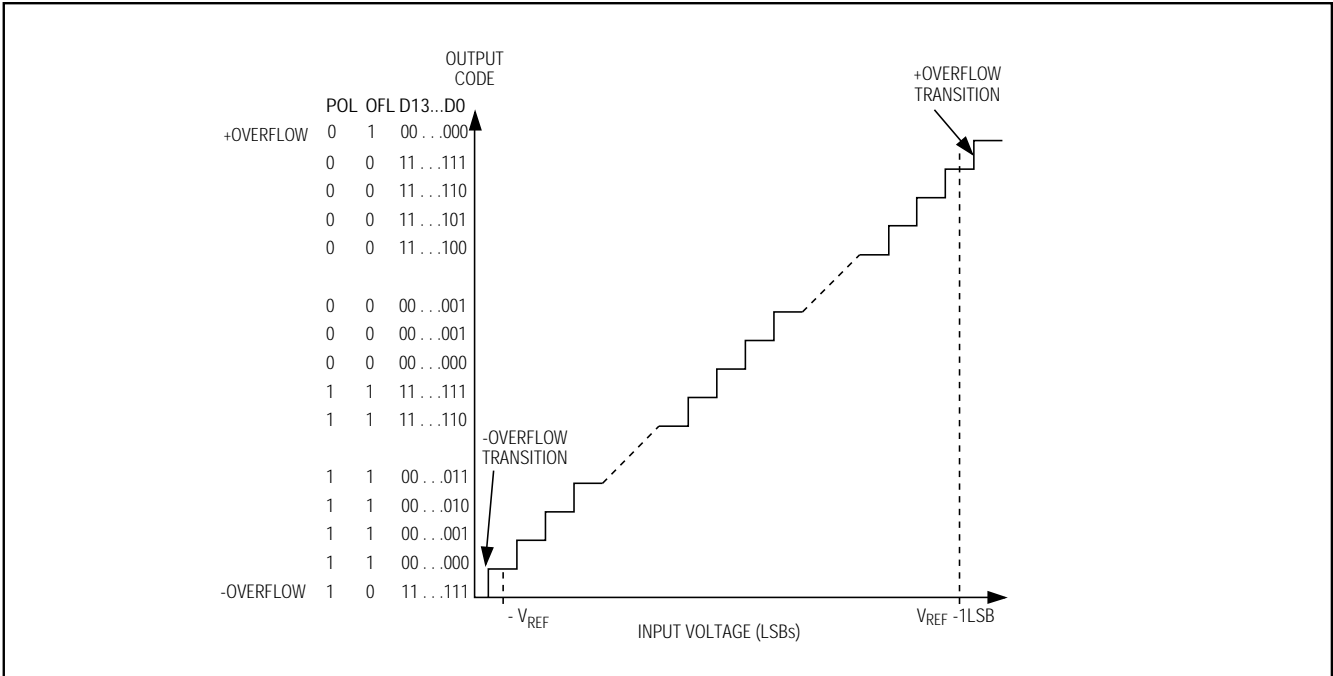
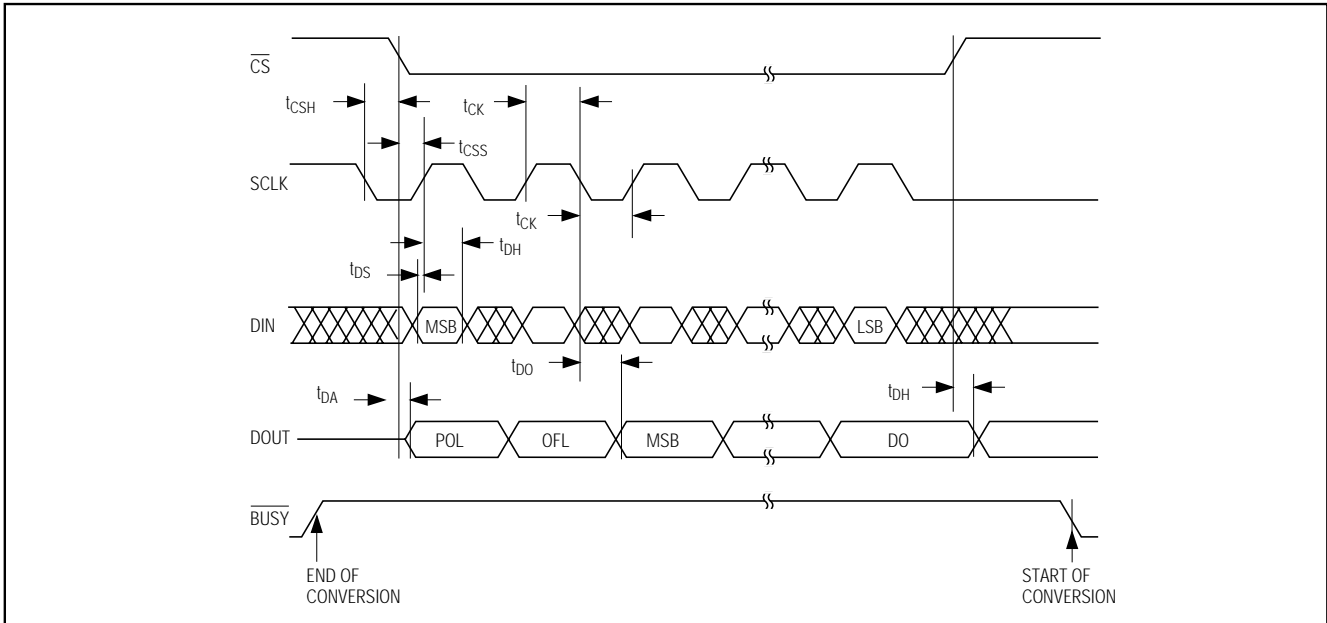

Figure 4. Differential Transfer Function
Figure 6. Detailed Serial-Interface Timing
The output data from the MAX110/MAX111 is arranged in twos-complement format (Figures 4, 5). The sign bit (POL) is shifted out first, followed by the overrange bit (OR), and the 14 data bits (MSB first) (see Figure 6). The MAX110 operates from  $\pm 5\text{V}$  power supplies and converts low-frequency analog signals in the  $\pm 3\text{V}$  range when using the maximum reference voltage of  $V_{REF} = 3\text{V}$  ( $V_{REF} = V_{REF+} - V_{REF-}$ ). Within the  $\pm 3\text{V}$  input range, greater accuracy is obtained within  $\pm 2.5\text{V}$  (see *Electrical Characteristics* for details). Note that a negative input voltage is defined as  $V_{IN-} > V_{IN+}$ . For the MAX110, the absolute voltage at any analog input pin must remain within the  $(V_{SS} + 2.25\text{V})$  to  $(V_{DD} - 2.25\text{V})$  range.
Data is transferred into and out of the serial I/O shift register by pulling  $\overline{\text{CS}}$  low and applying a serial clock at SCLK. This fully static shift register allows SCLK to range from DC to 2MHz. Output data from the ADC is clocked out on SCLK’s falling edge and should be read on SCLK’s rising edge. Input data to the ADC at DIN is clocked in on SCLK’s rising edge. A new conversion begins when  $\overline{\text{CS}}$  returns high, provided the MSB in the input control word (NO-OP) is a 1 (see *Using the MAX110/MAX111 with MICROWIRE, SPI, and QSPI Serial Interfaces*). Figure 6 shows the detailed serial-interface timing diagram.